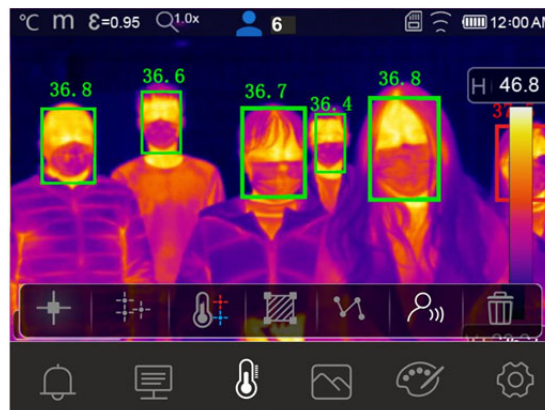

Fig. 35: Face mode on more people
7. The Face mode allows for the face temperature of several people (**up to 10 people**) to be evaluated at the same time (see Fig. 35). The counter “” found at the top of the display indicates the number of statistically valid detections.